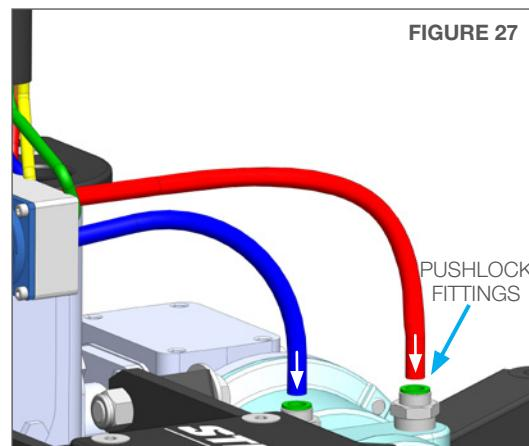

FIGURE 27
27. Depress the pushlock fittings on the air motor and push in the red and blue 1/4" tubing lines as shown. IT IS CRITICAL TO FUNCTION that the red and blue lines be inserted in the exact positions shown. Pull back on both lines to ensure they are securely connected. (**Figure 27**)